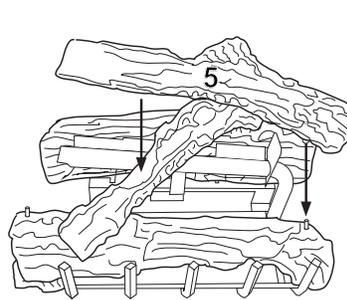

Figure 44 - Installing Log No. 5
5. Place log #5 (top log) onto right pin of front log (#2) and smooth surface of crossover log (#4) as shown in Figure 44. Make sure it is seated properly.